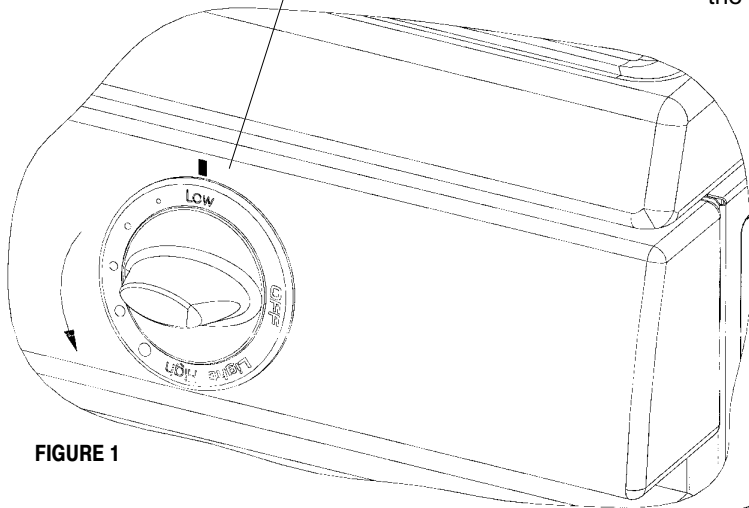

FIGURE 1
1. Be sure valve is turned to the "LOW" position as shown on the knob **BEFORE** making adjustments. See figure 1. Otherwise, the valve could be damaged.